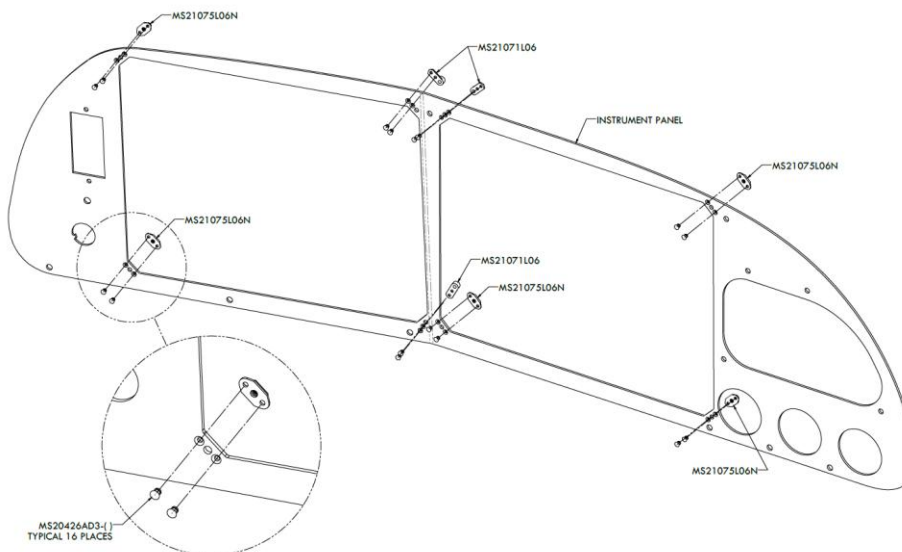

Figure 4-3: Instrument Panel Typical Nut-plate Installation
1. Install eight (8) nut plates using 16 rivets identified below in Figure 4-3.